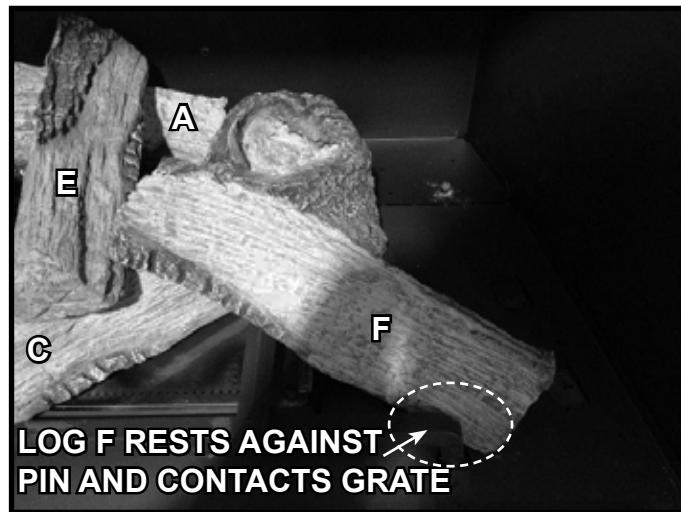

Figure 10. Log E Installed
6. (**LOG F**): Place Log F into appliance as shown in Figure 10. The burned out end of the log should rest on Log C and contact Log E. The unburned end of Log F should rest against log pin F, as shown in Figure 4, and contact the back of the lower grate tine as noted in Figure 10. Figure 3 shows the installed log set.